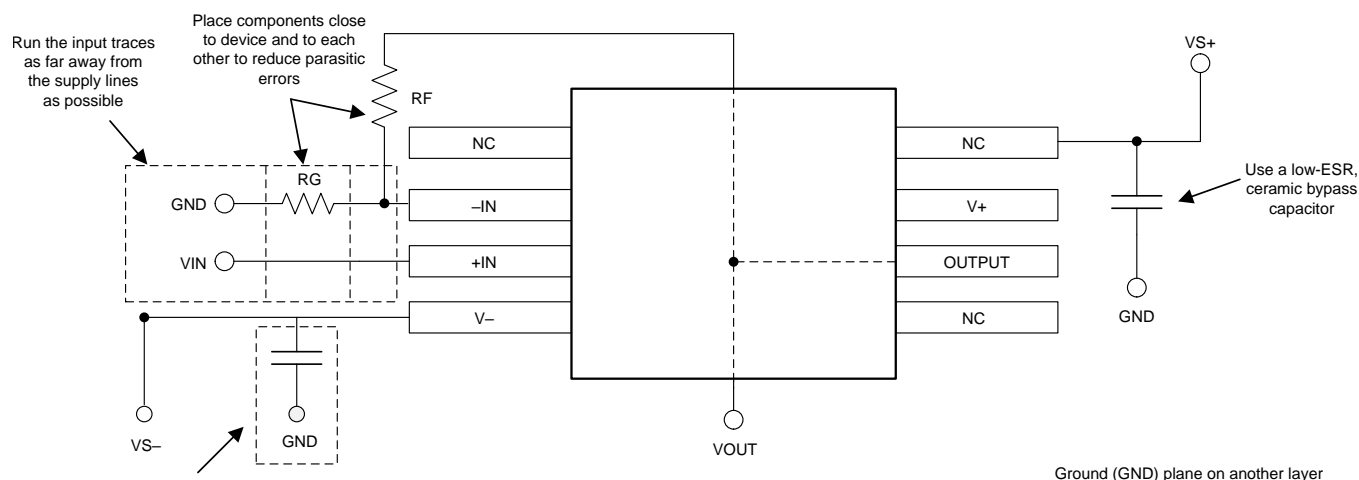

Figure 35. Operational Amplifier Board Layout for Noninverting Configuration
- Place the external components as close to the device as possible. As shown in Figure 35, keeping RF and RG close to the inverting input minimizes parasitic capacitance.